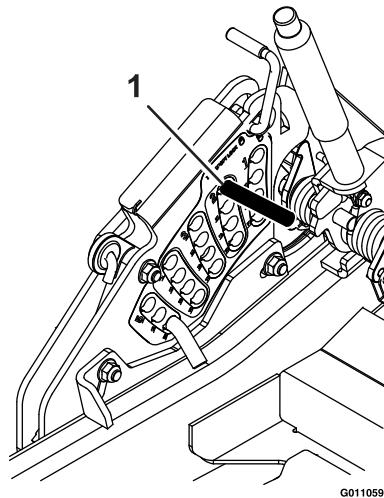

Figure 34
- D. Install a 1/2 x 6 inch (approx.) rod or bolt through the 2 inch height of cut hole (see Figure 34).